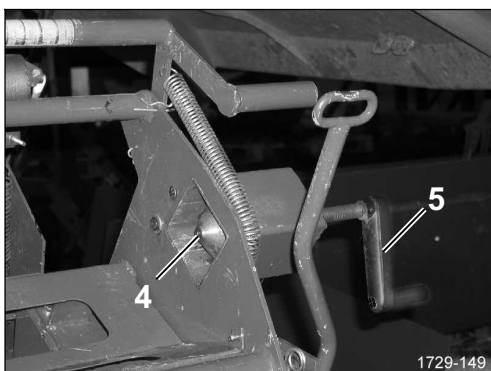

Figure 34
- ❑ (Figure 34) Pull out handle [5] of the crank handle. Crank back the tensioning spindle [4] until the lock plate with the crank handle.